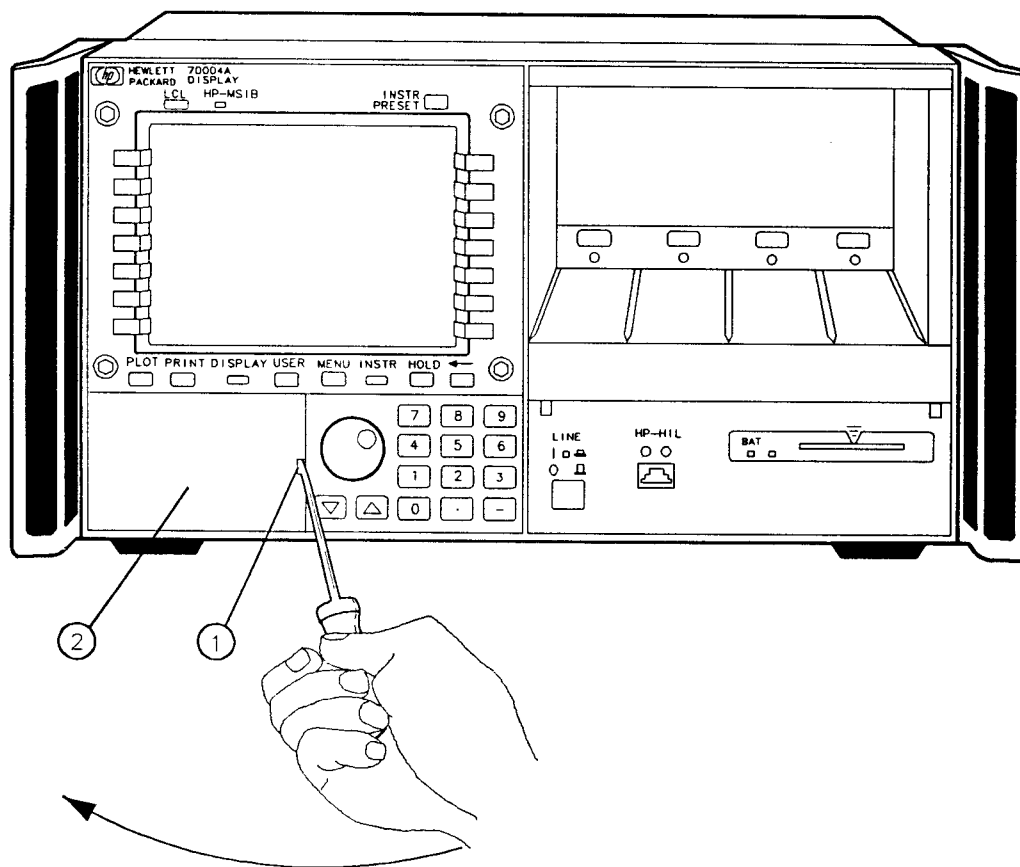

Figure 2-9. Installing the Instrument Keypad
1. Insert a bladed screwdriver into the keypad's slot (1). See Figure 2-9.
2. Gently pry the screwdriver's handle to the left. The keypad (2) will snap out of the front panel.